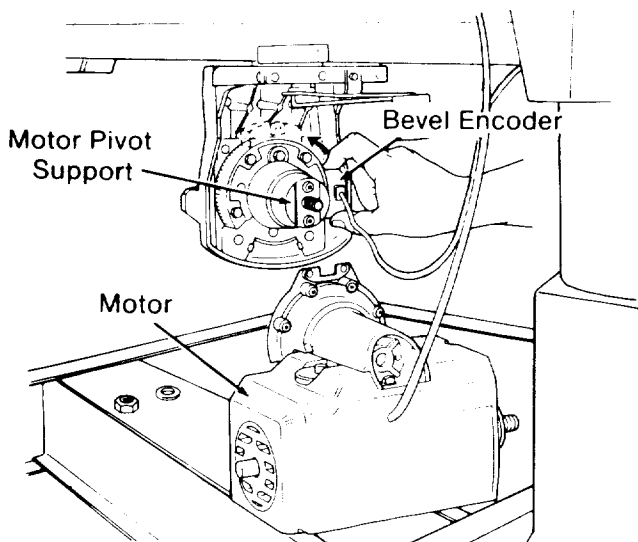

Fig. 47
7. Remove the lock nut and flat washer from the *motor pivot support*. (Figure 47)
8. Slide the *bevel encoder* to the top center position so it will fit into the notch on the *motor support bracket*. (Figure 47)